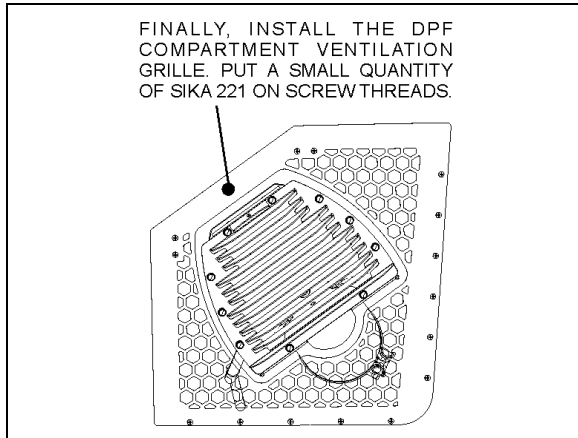

FIGURE 12: DIFFUSER POSITION ADJUSTMENT 04015_3
- Reinstall the DPF compartment grille. Put a small quantity of Sika 221 on screws (fig.12).